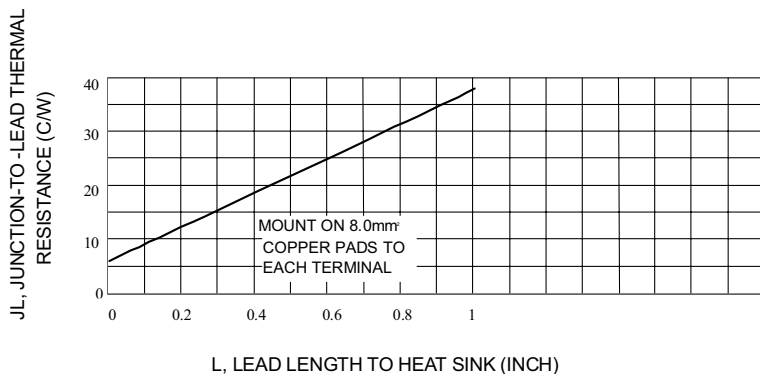
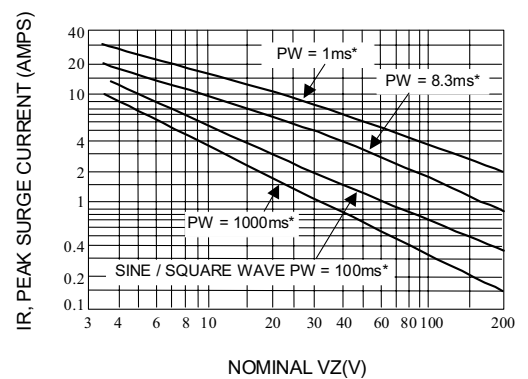
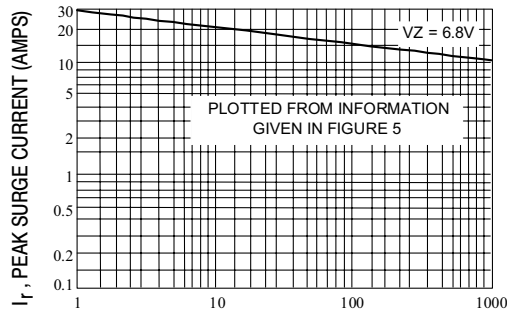

Fig. 4-TYPICAL THERMAL RESISTANCE
Fig. 5-MAXIMUM NON-REPETITIVE SURGE CURRENT VERSUS NOMINAL ZENER VOLTAGE (SEE NOTE 3)
Fig. 6-PEAK SURGE CURRENT VERSUS PULSE WIDTH(SEE NOTE 3)
3. SURGE CURRENT (I_r) - Surge current is specified as the maximum allowable peak, non-recurrent square-wave current with a pulse width, PW, of 8.3 ms. The data given in Figure 5 may be used to find the maximum surge current for a square wave of any pulse width between 1 ms and 1000ms by plotting the applicable points on logarithmic paper. Examples of this, using the 6.8v, is shown in Figure 6. Mounting contact located as specified in Note 3. ($T_A=25^\circ\text{C}$).
ΔT_{JL} is the increase in junction temperature above the lead temperature and may be found from Figure 4 for a train of power pulses or from Figure 1 for dc power.
Data of Figure 4 should not be used to compute surge capability. Surge limitations are given in Figure 5. They are lower than would be expected by considering only junction temperature, as current crowding effects cause temperatures to be extremely high in small spots resulting in device degradation should the limits of Figure 5 be exceeded.
*** Data of Figure 3 should not be used to compute surge capability. Surge limitations are given in Figure 5. They are lower than would be expected by considering only junction temperature, as current crowding effects cause temperatures to be extremely high in small spots resulting in device degradation should the limits of Figure. 5 be exceeded